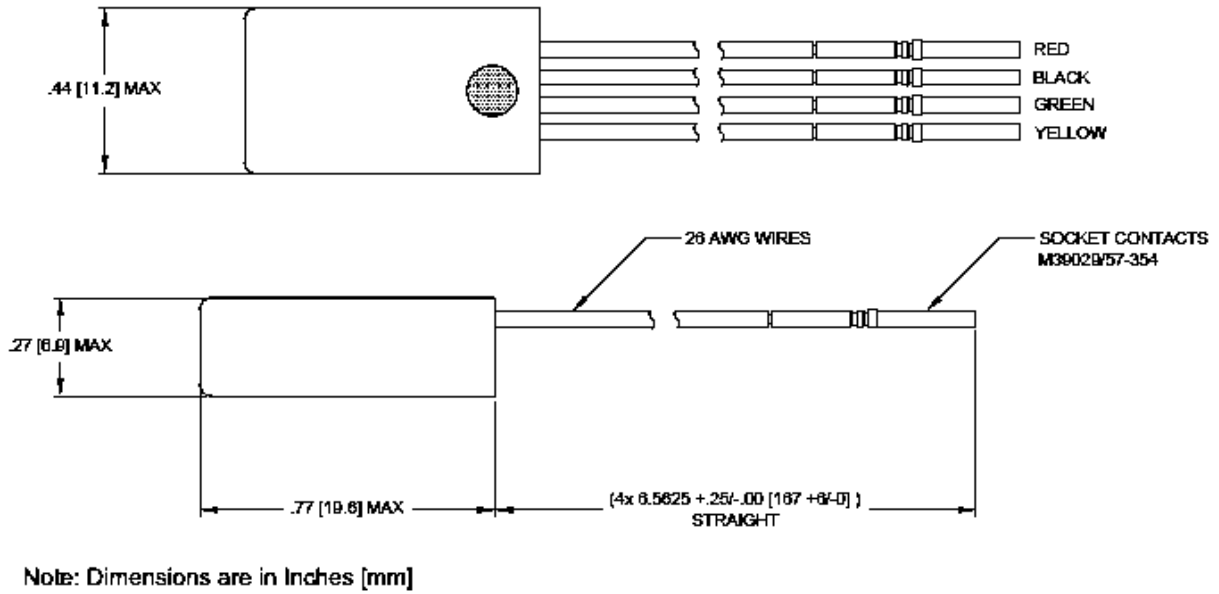
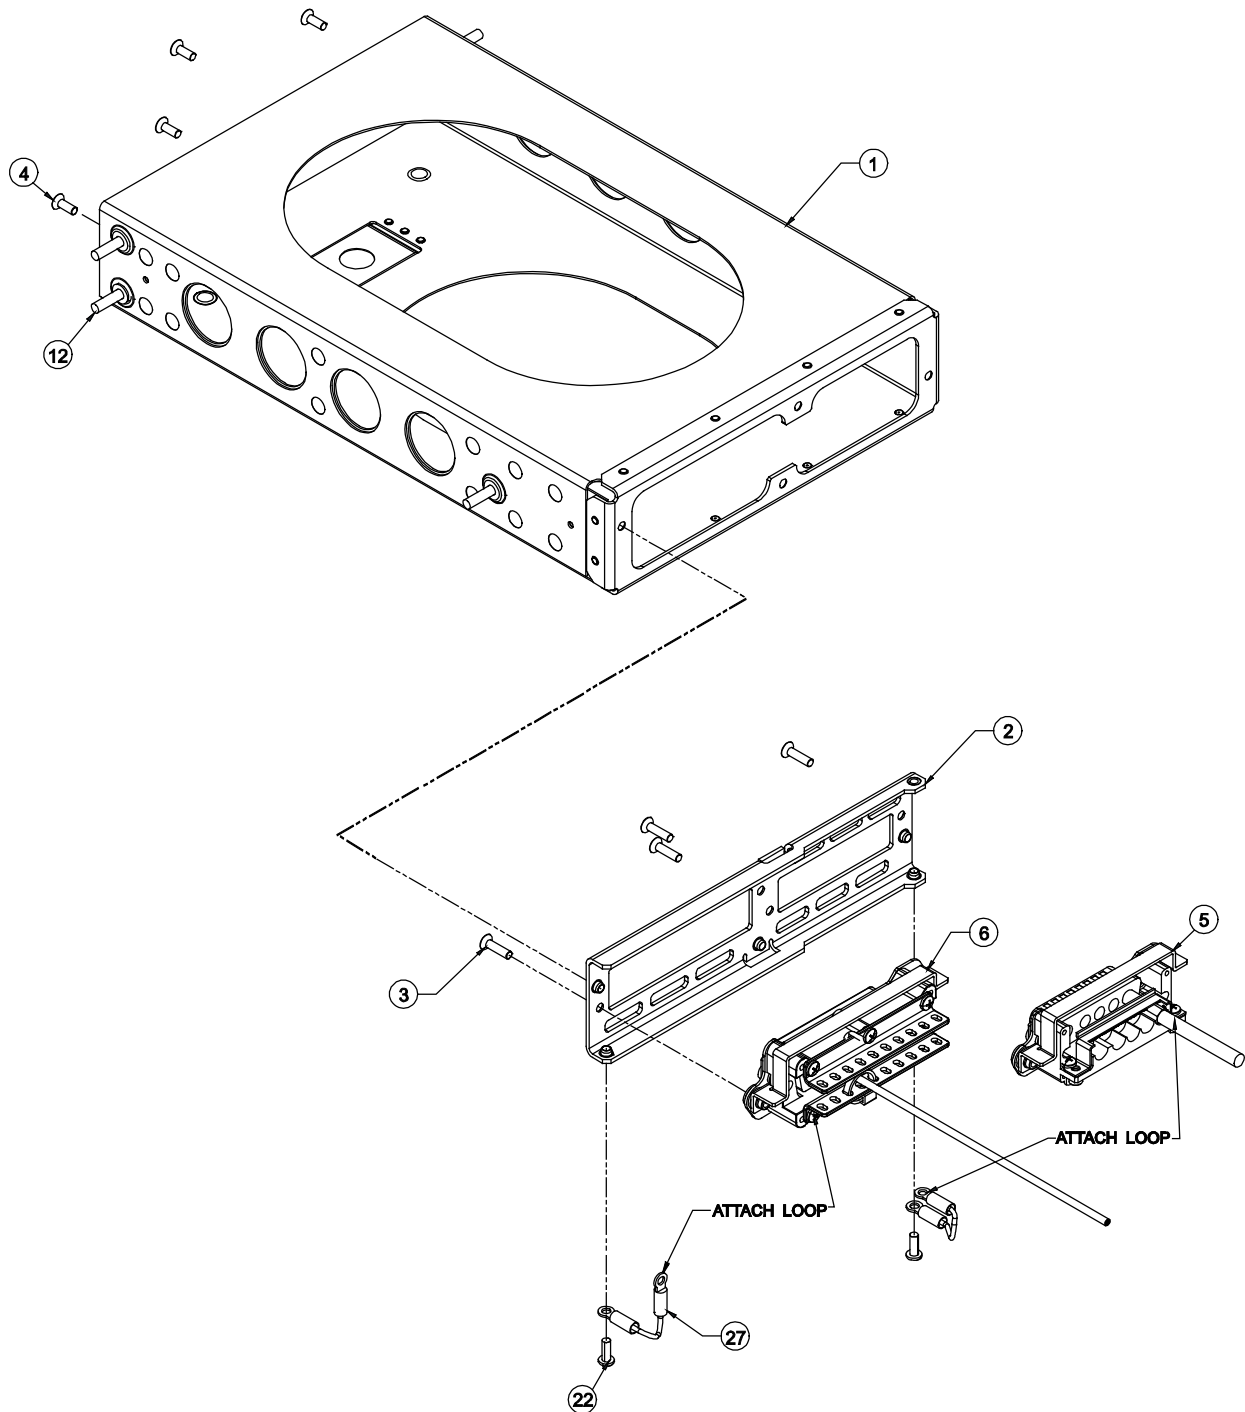

Figure 2-6: Outline Dimensions for the Data Configuration Module (9230-17003-01)
Figure 2-12: Panel Assembly
1. Assemble Connector Pins P/N M39029/57-354 (item 11) to wires using Crimp Tool M22520/5-01 and Insert M22520/5-05.
2. Secure Backshell P/N 9010-17012-01 (item 9) to P1 Mating Connector P/N 9080-17006-01 (item 14) using 4 Screws P/N 2000-10085-01 (item 7).
3. Secure 2 Wire Clamps P/N 9000-17076-01 (item 10) and 1 Cable Ground Strap P/N 9020-17002-01 (item 27) to Backshell (item 9) using 6 Screws P/N 2000-10087-01 (item 22). (Refer to Figure 2-12 for the installation location of the other side of the cable ground strap.)
5. Secure Wires to Wire Clamps (item 10) using Cable Ties P/N 1040-10002-01 (item 26) as required.
6. Refer to Figure 2-6. The Configuration Module needs to be installed outside the Backshell (item 9) and Wire Clamp (item 10) and covered by an overbraid (AA59569R36TXXXX, the XXXX refers to the diameter of the braid). Secure the exposed sides of the overbraid with tie wraps.